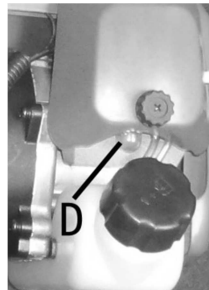

Fig.10
2. Pump primer bulb 10X by pressing up on the bulb(D).(Fig.10)